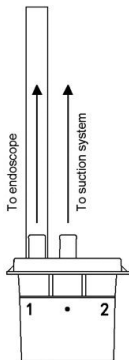

Figure 1
1. Connect a suction tube (not included) from the center port of polyp trap to suction system (see Figure 1).
2. Connect outer port (endoscope) tubing to the endoscope (see Figure 1).